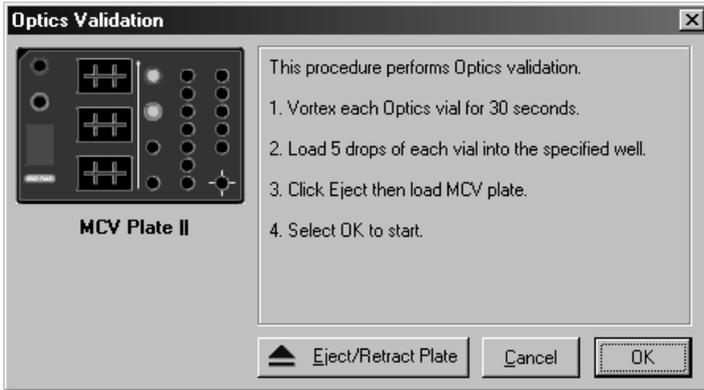

Fig. 4.
8. Enter user name and control number. Select Optics. Select OK. The following dialog appears: (Figure 4).